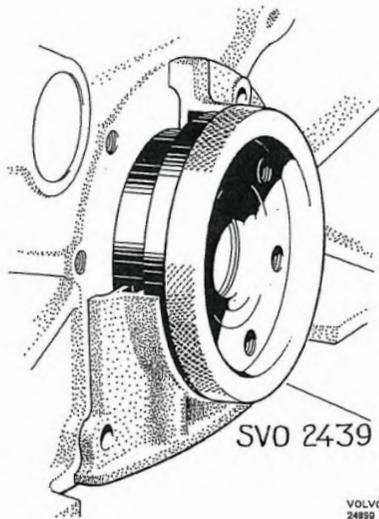

Fig. 2-36. Centering rear sealing flange
3. Center the flange with sleeve 2439, Fig. 2-36. Turn the sleeve round while tightening the bolts and adjust the position of the flange if the sleeve jams. Check that the flange comes flush against the underside of the block.